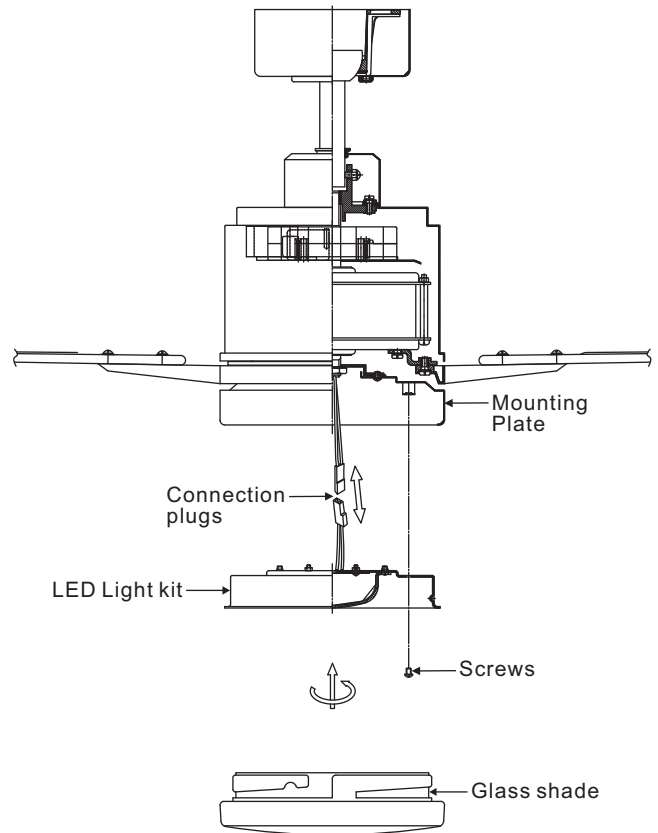

Figure 14
**Step 1.** Remove the 1 of 3 screws from the posts of the mounting plate and keep it for future use. Loosen the other 2 screws. (Do not remove) (Fig. 14)
**Step 3.** Place the key holes in the LED light kit over the two screws previously loosened from the mounting plate. Turn the LED light kit until the LED light kit locks in place at the narrow section of the key holes. (Fig. 14)
**Step 4.** Securely tighten the two light kit mounting screws previously loosened and the one previously removed. (Fig. 14)
**Step 5.** Raise glass shade up against the LED light kit, and secure it to fan by turning glass shade clockwise until snug. DO NOT OVERTIGHTEN. (Fig. 14)